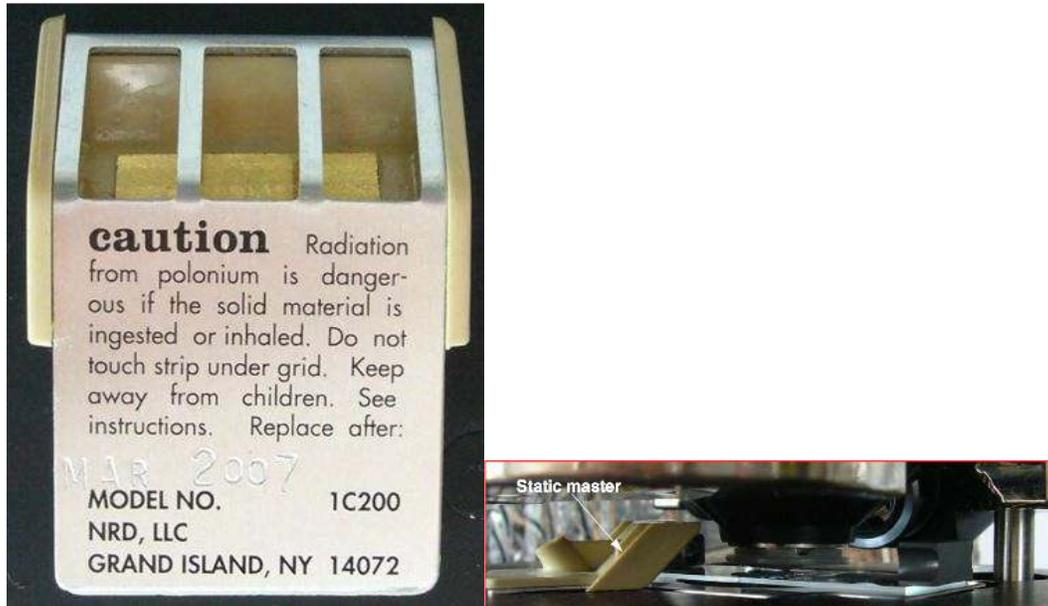

Figure 4.5.: Placing static master near sample on an MFP-3D AFM to dissipate charge
- Place the Static Master in the vicinity of the sample (see Figure 4.5 on page 42).